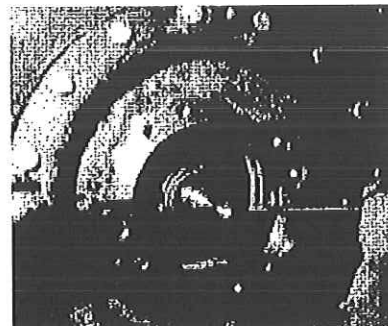

FIGURE 2
8. Using 2 screwdrivers, pull the rotating seal assembly from the pump shaft (see Figure 2). Clean and inspect the shaft and bearing housing for damage, replace if required.